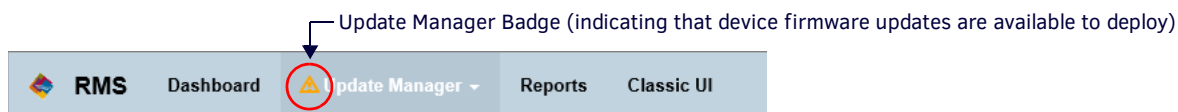

FIG. 34 Update Manager Badge
1. In the RMS Enterprise HTML interface, check the **Update Manager** menu option. If the *Update Manager Badge* is displayed on this tab, it is an indication that there is updated device firmware available for one or more devices in the system (FIG. 34):